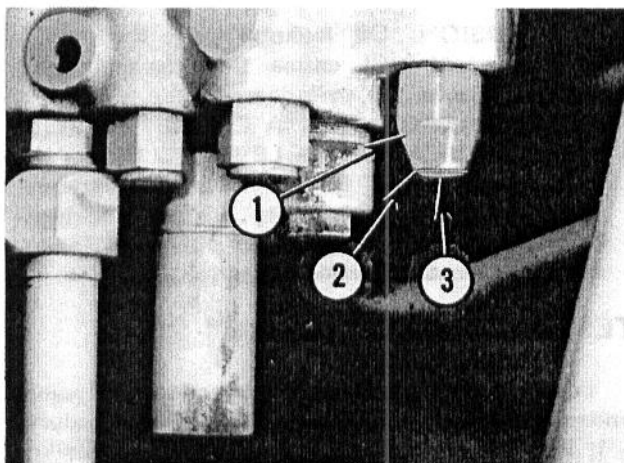

Fig. 21 — Main Relief Valve — Shield Installed
4. ADJUST the main relief of the control valve shown in Fig. 21 as follows: